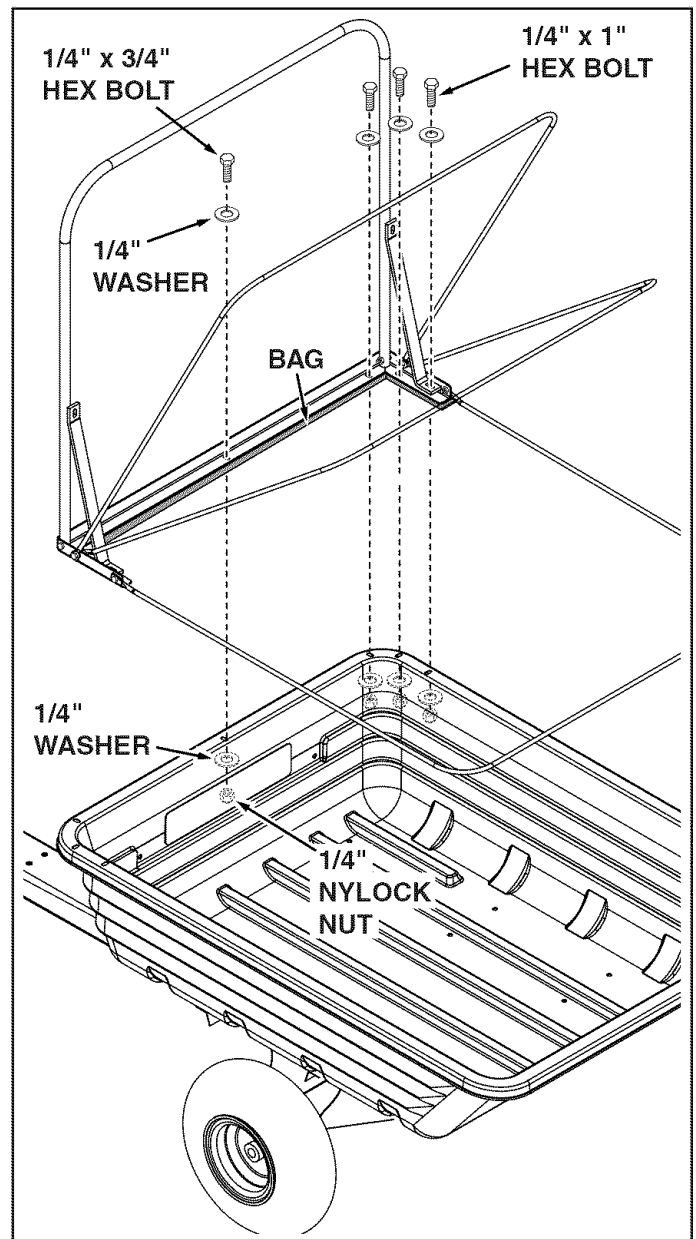

FIGURE 21
- Place the top angle support and cart bag on top of the cart as shown in figure 21. Then, using a screwdriver or other sharp object, poke holes through the cart bag for the bolts that will be assembled in step 9.
- Attach the top angle support and braces to the cart using five 1/4" x 3/4" hex bolts, two 1/4" x 1" hex bolts through braces, fourteen 5/16" washers (one placed on each side) and seven 1/4" nylock nuts. **DO NOT TIGHTEN YET.** See figure 21.